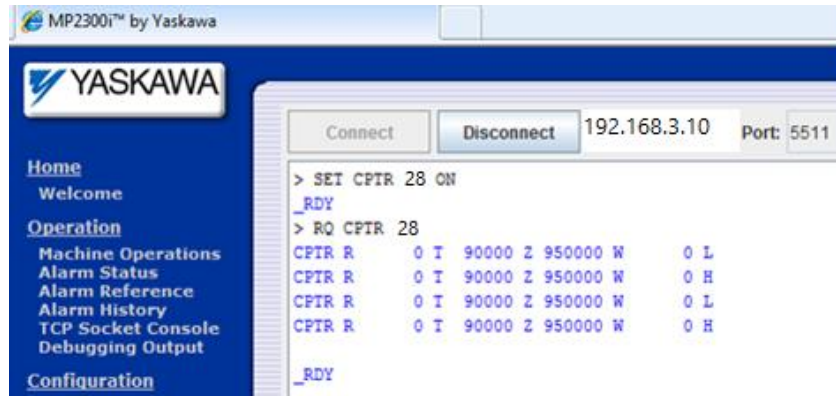

Figure 20 Loadlock AWC Sensor Configuration 29 Capture
- 3 Request the captured data by sending the command **RQ CPTR (Sensor#) (ArmA/B)** (see Figure 20).